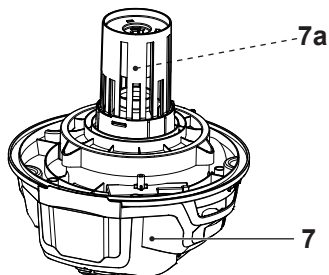

Fig. 18
The product is designed with a safety valve (7a) to prevent water from entering into the motor unit (7) during wet vacuuming operations (Fig. 18). Before use, check that the safety valve moves freely within the cage.